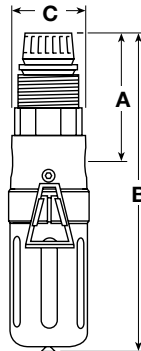

Fig. 4 Withdrawal distance: **E** without bowl guard **E1** with bowl guard
MPC2 Spirax-Monnier high efficiency compressed air filter/regulator (Fig. 4)
3.3.2 Adequate space should be provided around the unit to allow easy access for routine servicing requirements (see Figure 4 for withdrawal distances).